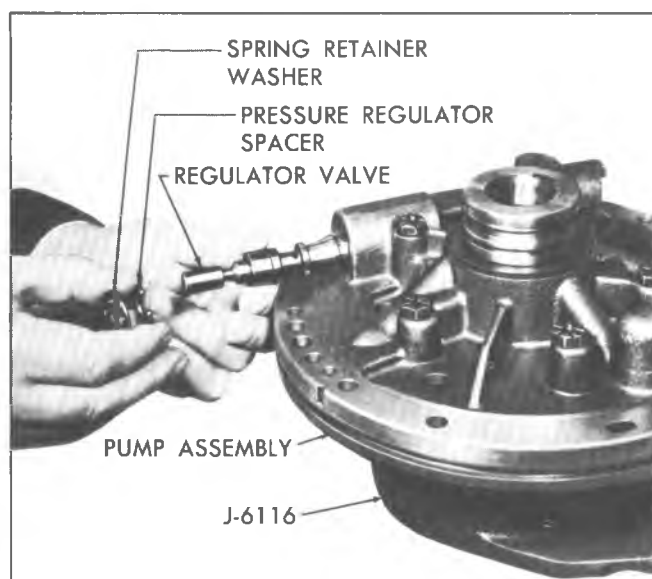

Fig. 61T--Removing Pressure Regulator Valve
5. Remove regulator valve, spring retainer and spacer(s), if present (fig. 61T).